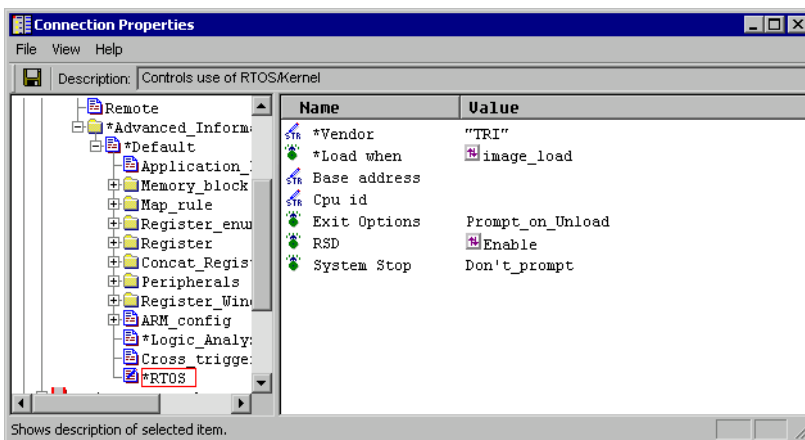

Figure 4-7 RTOS group in the Connection Properties window
5. Double-click on the RTOS group, in the right pane, to see the RTOS configuration settings, shown in the example in Figure 4-7 on page 4-15.
As shown in Figure 4-7, configure RTOS operation in your board file using the RTOS group: